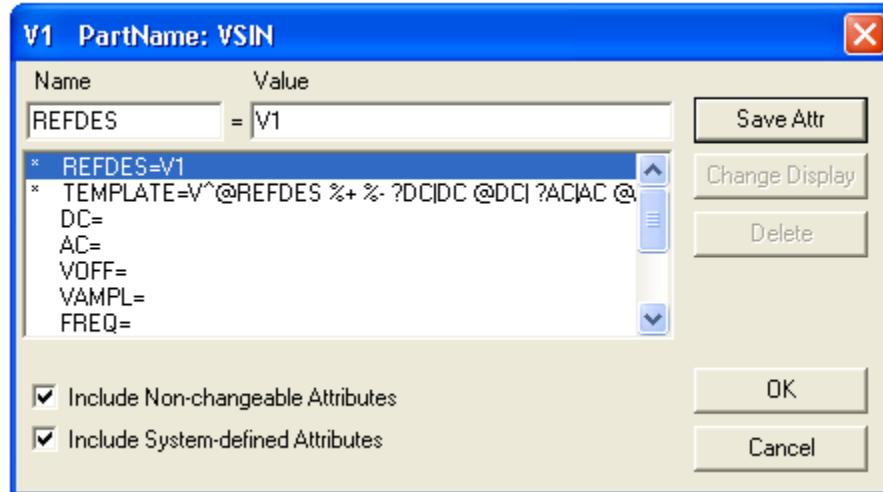

Figure 5
- The SIN type of source is actually a damped sine with time delay, phase shift and a DC offset (see Figure 5). If you want to run a transient analysis you need to use the VSIN see how AC will effect your circuit over time. Do not use this type of source for a phasor or frequency sweep analysis, VAC would be appropriate for that.